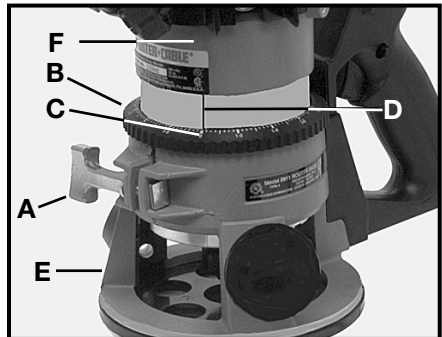

Fig. 5
2. Loosen the clamp screw (A), Fig. 5.
3. Hold the base (E), and turn the motor unit (F), Fig. 5 COUNTER-CLOCK-WISE until the tip of the bit is above the bottom of the base.
5. Turn the motor unit (F), Fig. 5 CLOCKWISE until bit touches the wood surface.
6. Tighten the clamp screw (A), Fig. 5.
7. Rotate the depth adjusting ring (B), Fig. 5, until the zero-line (C) is opposite the index line (D) on the housing.
8. Loosen the clamp screw (A), Fig. 5.
9. Tip the router so that the bit is clear of the wood surface. Turn the motor unit (F), Fig. 5 CLOCKWISE until the index line (D) on the motor housing reaches the desired depth indicated on the ring.
10. Tighten the clamp screw (A), Fig. 5 firmly.